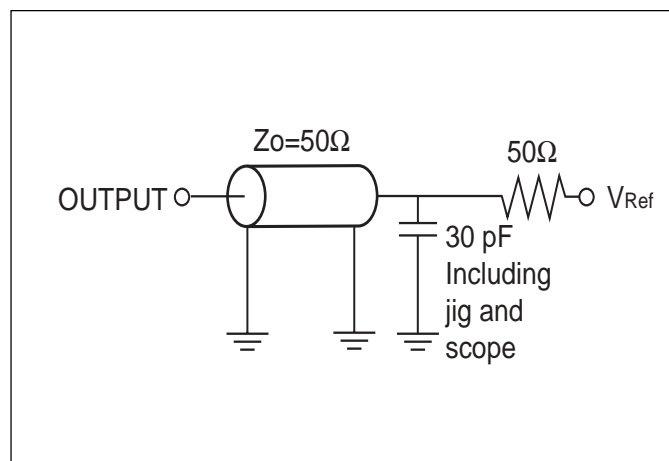

Figure 1a.
Output Load	See Figures 1a and 1b
1. Test conditions assume signal transition times of 1.5 ns or less, timing reference levels of 1.25V, input pulse levels of 0.4V to V_{DD}-0.3V and output loading specified in Figure 1a.
1. Test conditions for IS61WV6416LL assume signal transition times of 1.5ns or less, timing reference levels of 1.25V, input pulse levels of 0.4V to V_{DD}-0.3V and output loading specified in Figure 1a.